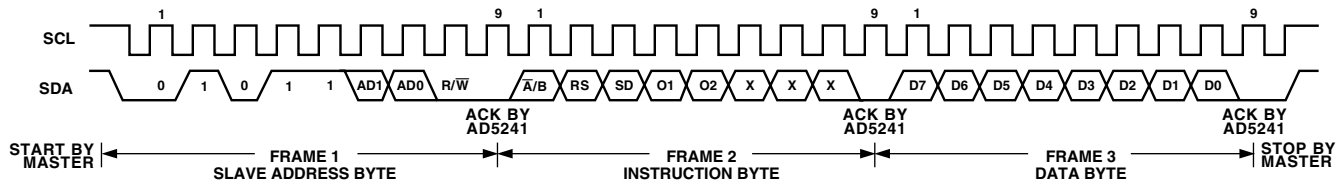

Figure 2. Writing to the RDAC Serial Register
Referring to Figures 2 and 3, the first byte of AD5241/AD5242 is a Slave Address Byte. It has a 7-bit slave address and a R_W bit. The 5 MSBs are 01011 and the following two bits are determined by the state of the AD0 and AD1 pins of the device. AD0 and AD1 allow users to use up to four of these devices on one bus.
1. The master initiates data transfer by establishing a START condition, which is when a high-to-low transition on the SDA line occurs while SCL is high, Figure 2. The following byte is the Slave Address Byte, Frame 1, which consists of the 7-bit slave address followed by an R_W bit (this bit determines whether data will be read from or written to the slave device).
bits are O_2 and O_1 . They are extra programmable logic output that users can use to drive other digital loads, logic gates, LED drivers, and analog switches, etc. The three LSBs are DON'T CARE. See Figure 2.
3. After acknowledging the Instruction Byte, the last byte in Write mode is the Data Byte, Frame 3. Data is transmitted over the serial bus in sequences of nine clock pulses (eight data bits followed by an "Acknowledge" bit). The transitions on the SDA line must occur during the low period of SCL and remain stable during the high period of SCL, Figure 2.
5. When all data bits have been read or written, a STOP condition is established by the master. A STOP condition is defined as a low-to-high transition on the SDA line while SCL is high. In Write mode, the master will pull the SDA line high during the tenth clock pulse to establish a STOP condition (see Figure 2). In Read mode, the master will issue a No Acknowledge for the ninth clock pulse (i.e., the SDA line remains high). The master will then bring the SDA line low before the tenth clock pulse which goes high to establish a STOP condition (see Figure 3).
AD5241/AD5242 allows user to read back the RDAC values in Read Mode. However, for AD5242 dual channel device, the channel of interest is the one that is previously selected in Write Mode. In the case that users need to read the RDAC values of both channels in AD5242, they can program the first subaddress in the Write Mode and then change to the Read Mode to read the first channel value. After that, they can change back to the Write Mode with the second subaddress and finally read the second channel value in the Read Mode again. Note that it is not necessary for users to issue the Frame 3 Data Byte in the Write Mode for subsequent readback operation. Users should refer to Figures 2 and 3 for the programming format.